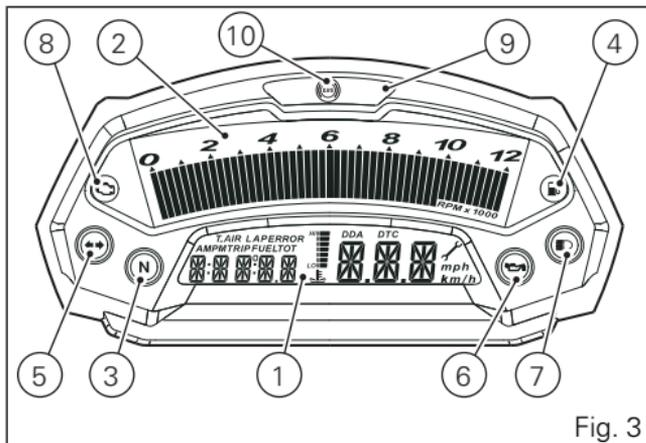

Fig. 3
7) HIGH BEAM LIGHT  (BLUE) (Fig. 3).
(AMBER YELLOW) (Fig. 3).
9) OVER REV LIMITER WARNING LIGHTS (Fig. 3)
10) ABS WARNING LIGHT (AMBER YELLOW) (for ABS version only) (Fig. 3).